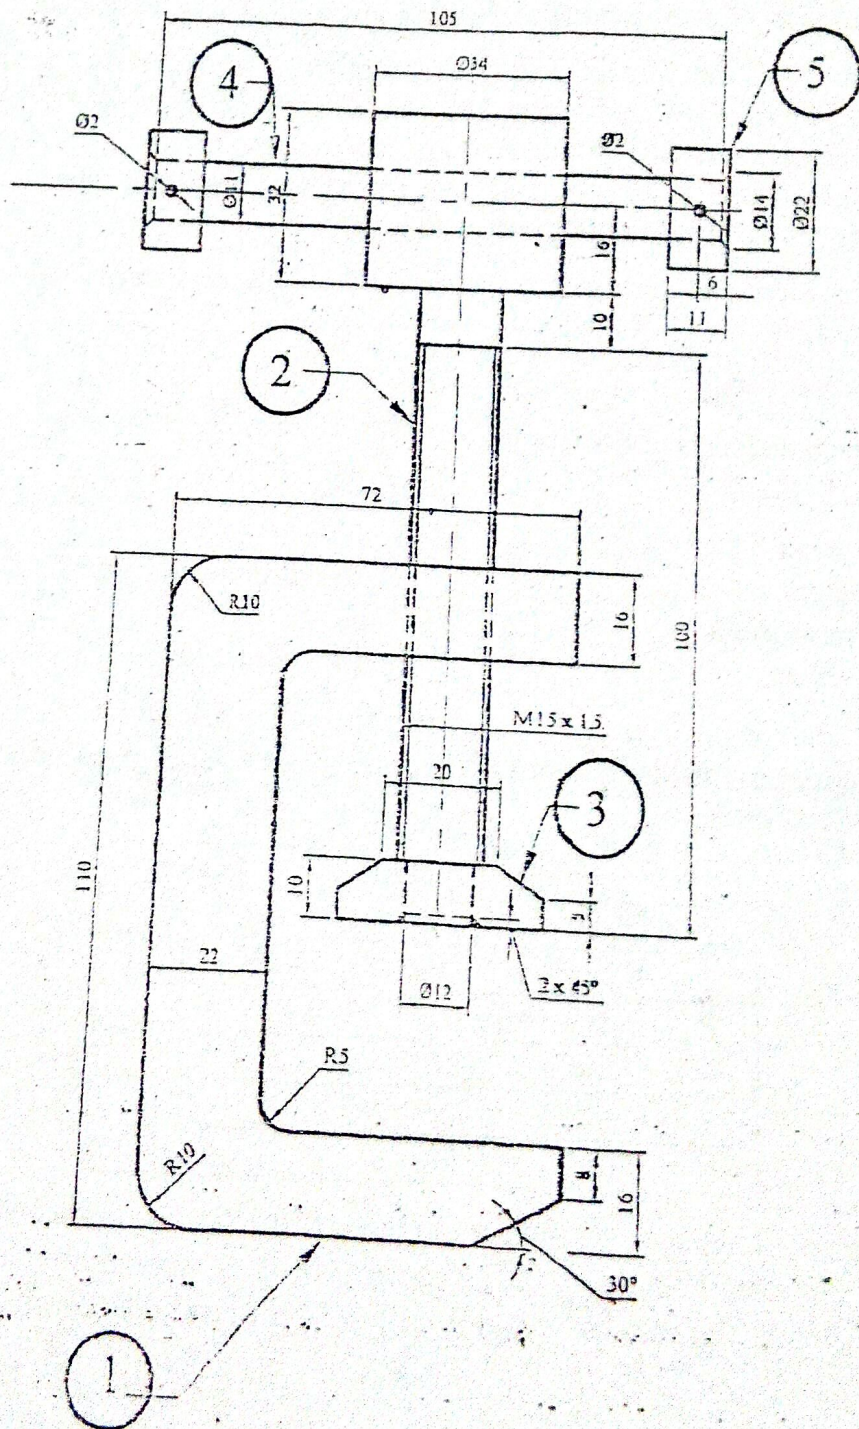

Figure P.4
- The assembly drawing of Hand Vice is shown in Figure P.4. Draw detail drawing of each component. Assume suitable thickness if necessary. Part list is given below. [15]